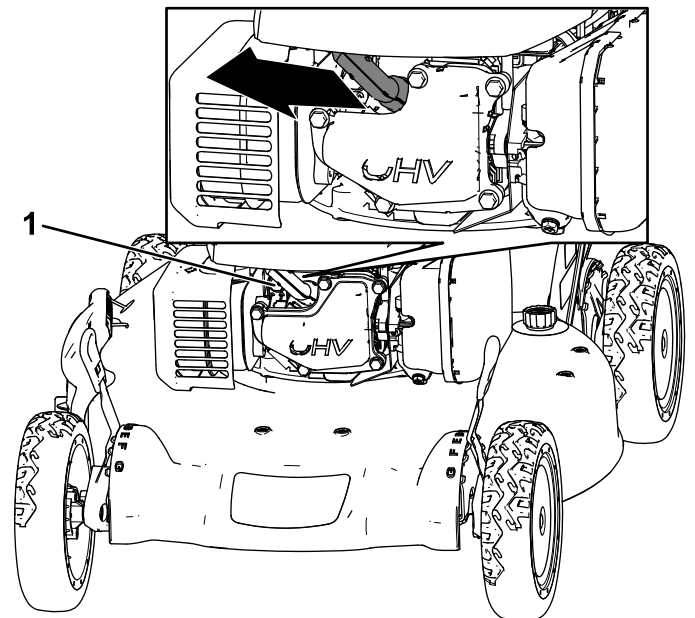

Figure 38
2. Disconnect the spark-plug wire from the spark plug (Figure 38).